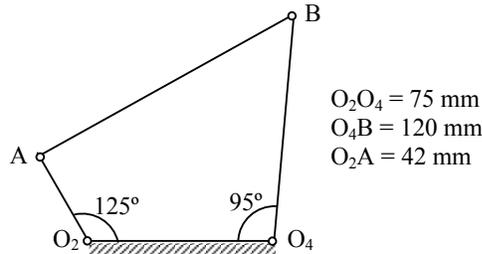

Fig. 2
3. a) Derive the Euler-Savary equation. (4)
b) Draw the circling point curve for the coupler of the four-bar mechanism shown in Fig.2. (10)